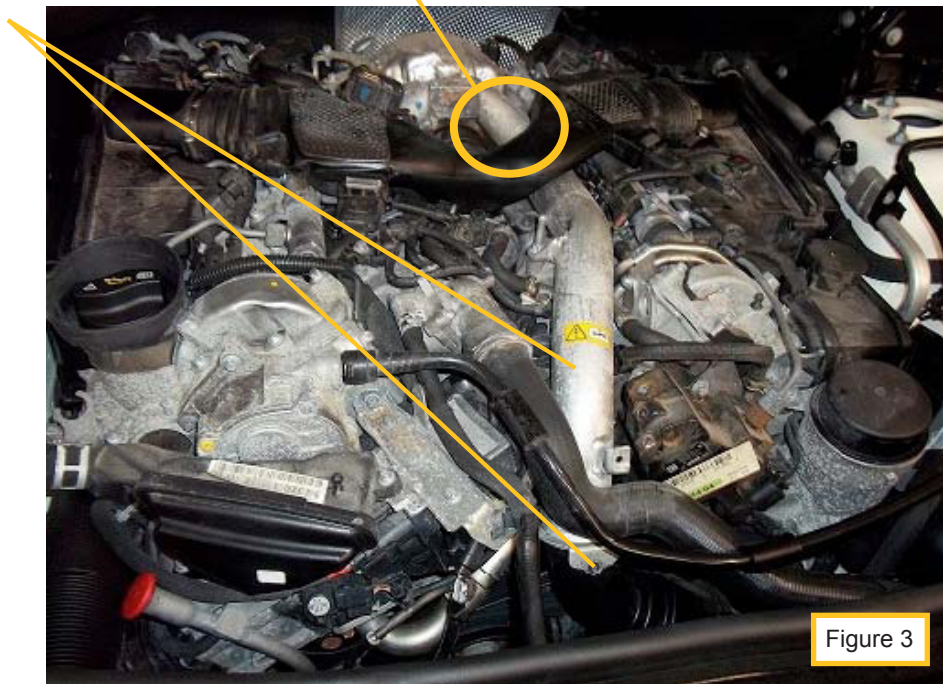

Figure 3
4. Remove turbo charger air outlet pipe to provide access for removal of EGR cooler outlet pipe (see figure 3). Be careful not to lose the o-ring at the turbo charger outlet